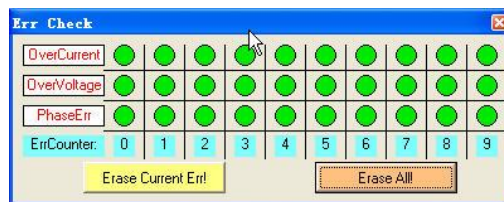

Figure 28: Error check window
- I **Error Check:** This window shows both the present status of each error event and their history. Current error event(s) can be reset by clicking **Erase Current Err!** button, and all error events can be reset by clicking **Erase All!** button. List of the last ten Drive faults. #0 being the most recent, #9 is the oldest. See Figure 28.